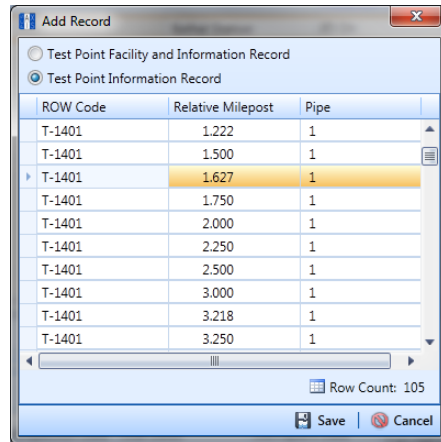

Figure 7-27. Add Record
- 5 Click  **Add** to open the *Add Record* dialog box. (Figure 7-27, page 236).
- 7 Select a facility record in the *Add Record* dialog box that you want to create a history record. For example, the facility record with *Relative Milepost 1.627* is selected in the following figure (Figure 7-27, page 236).